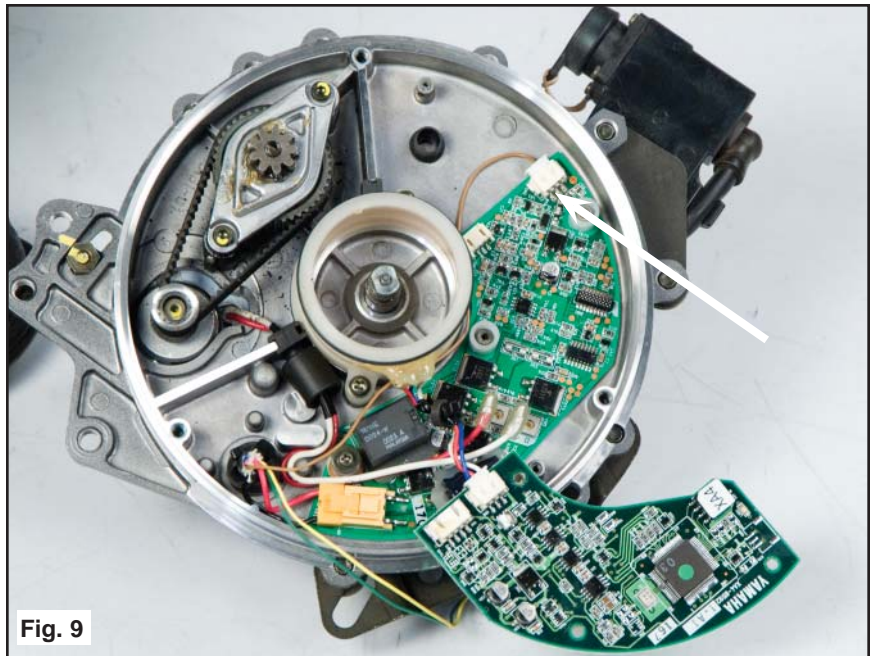

Fig. 9
9) Finally disconnect the last connector and remove the Receptacle Harness. (Fig 9)